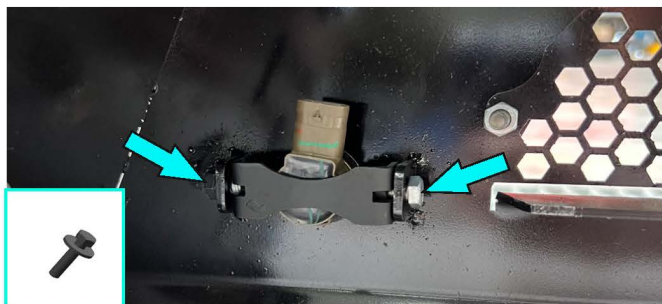

Fig.40
40. Install parking sensors in bumper body and fix them using parking sensor holding brackets, bolts M6x20, washers 6 (item 37, C, H). Connect OE wiring and fix wiring on the bumper using cable ties (item U) (fig.40).